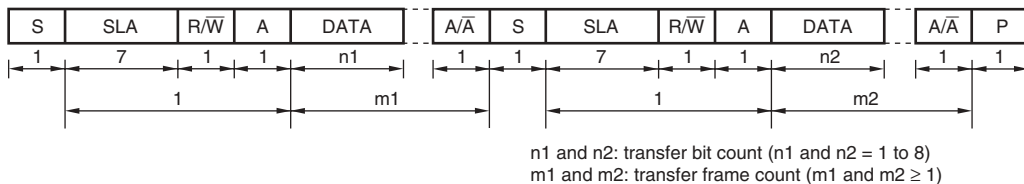
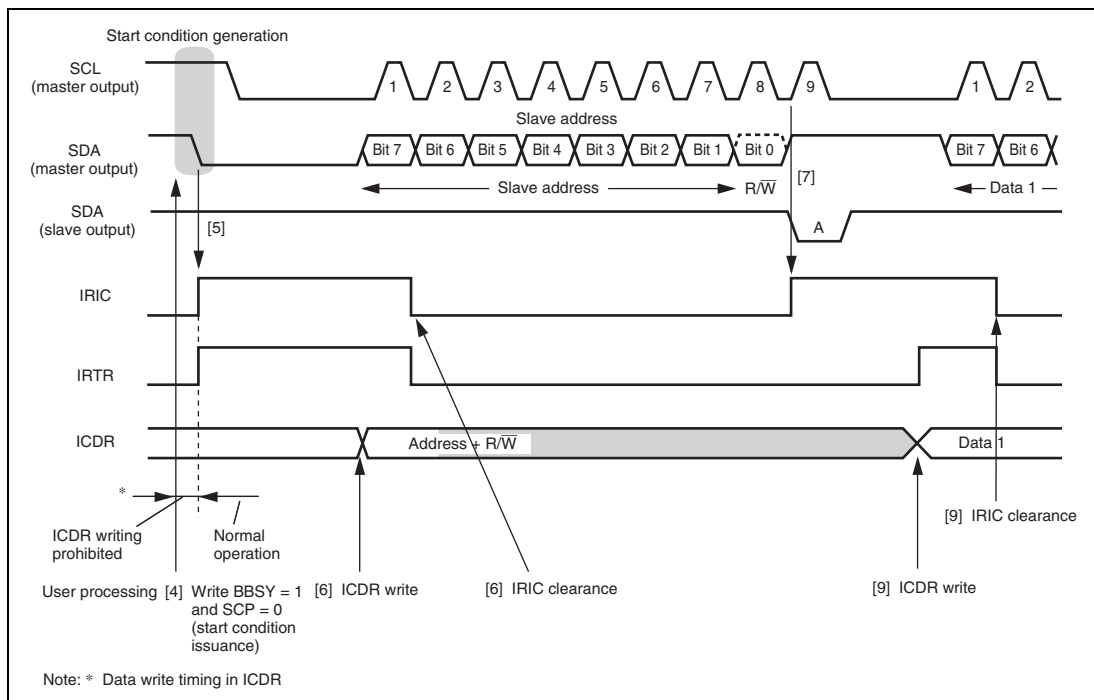

Figure 15.3 I²C Bus Data Formats (I²C Bus Formats)
Figure 15.5 Master Transmit Mode Operation Timing Example
The I²C bus formats are addressing formats and an acknowledge bit is inserted. These are shown in figures 15.3. Figure 15.5 shows the I²C bus timing. The first frame following a start condition always consists of 8 bits.
6. Write the data (slave address + R/W) to ICDR. With the I²C bus format (when the FS bit in SAR or the FSX bit in SARX is 0), the first frame data following the start condition indicates the 7-bit slave address and transmit/receive direction. As indicating the end of the transfer, and so the IRIC flag is cleared to 0. After writing ICDR, clear IRIC continuously not to execute other interrupt handling routine. If one frame of data has been transmitted before the IRIC clearing, it can not be determine the end of transmission. The master device sequentially sends the transmission clock and the data written to ICDR using the timing shown in figure 15.5. The selected slave device (i.e. the slave device with the matching slave address) drives SDA low at the 9th transmit clock pulse and returns an acknowledge signal.